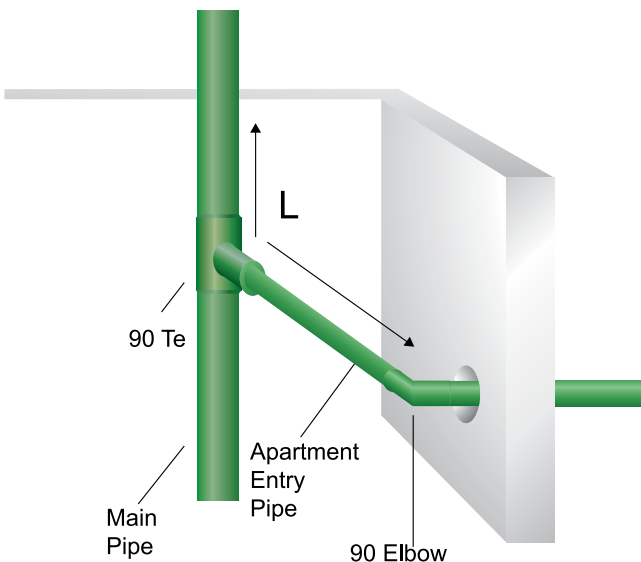

Figure 11.2
- 3) The L-shaped pipe segment in Figure 11.2 is used to compensate for length variations due to thermal expansion.